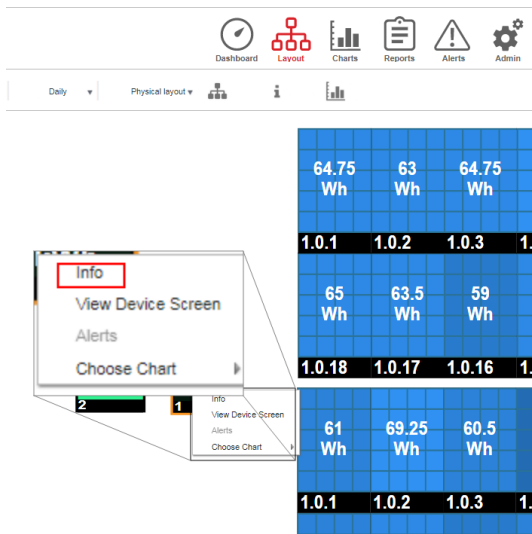

Figure 41: Inverter menu
2. Right-click the inverter and select **Info** from the menu (*Figure 41*). The inverter details window is displayed (*Figure 42*).